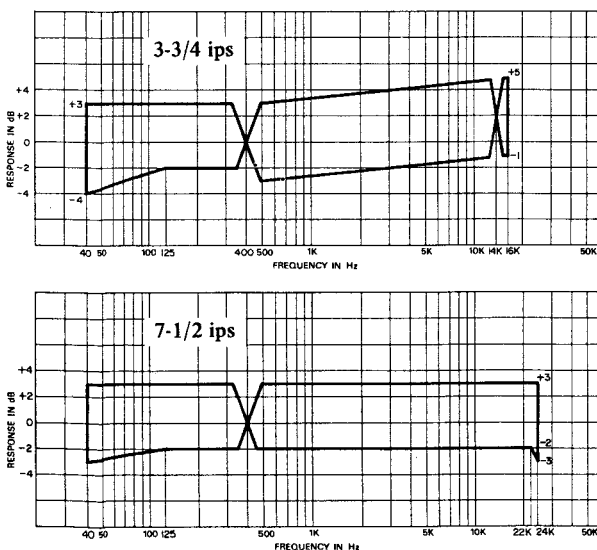

Fig. 8-10 Frequency Response - OVERALL - 1
20. During recording, monitor the Tape signal and adjust equalization L-301/L-303 for readings within the Response Limits charts. See Fig. 8-10 below.
22. Apply signal swept from 40 Hz to 24 kHz, -28 dB (30.8 mV) and while monitoring the off-the-Tape signal check for readings within the Response Limits charts. See Fig. 8-10 below.